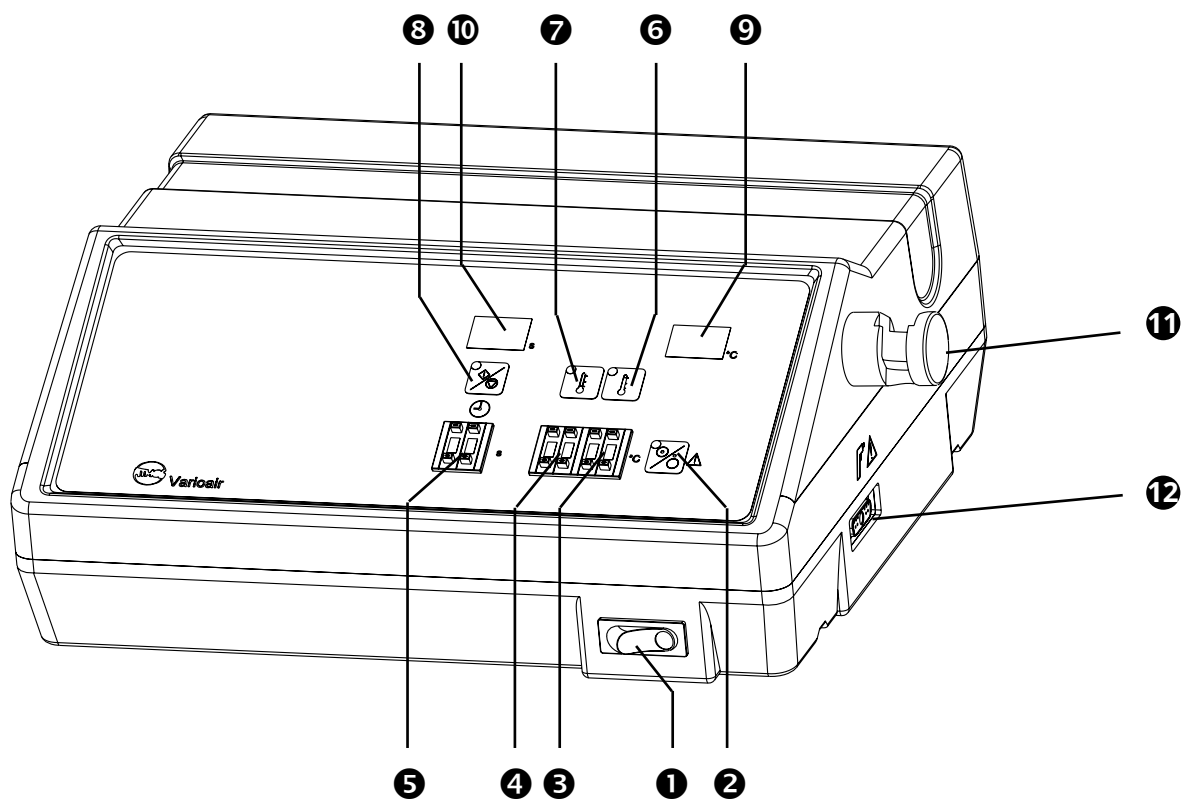

Fig. 1. Front view
- Switch on the unit (❶, fig. 1).
- Temperature setting by coding switch (③, ④, Fig. 1).
- For selecting the desired temperature level, use the respective key (⑥, ⑦, fig. 1).
- For switching off the heating system press the respective key (⑥, ⑦, fig. 1) of the active temperature level.
- By means of coding switch (⑤, Fig. 1).
- By operating one of the key switches for selecting a temperature level (⑥, ⑦, fig. 1) or by operating the key switch for heating/air flow ON/OFF (②, fig. 1) in the standby mode.
- Operating the key switch heating/air flow ON/OFF (②, fig. 1) switches the unit to the standby mode.
- Initially select the type of stimulation by actuating either warm-stimulation or cold-stimulation key (Ⓔ, Ⓕ, fig. 1) (see section 4.1 for pre-setting of temperature)
- When the push button is released, the thermal stimulation is performed for the time set by the user (Ⓔ, fig. 1).